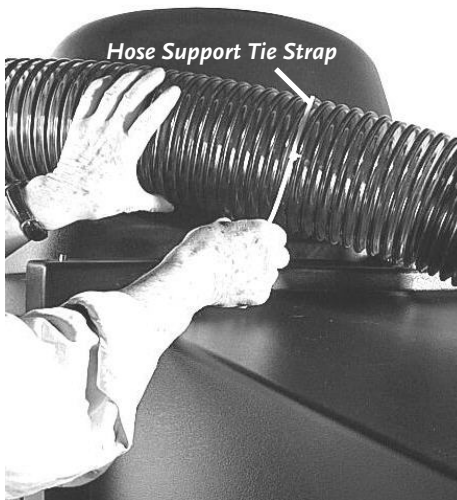

Figure 42
2. Tilt the Trailer Bed back for ease of access and cut the Hose Support Tie Strap (**Figure 42**).
8. Replace the Hose Support Tie Strap with the new one supplied with the replacement Hose (**Figure 42**).